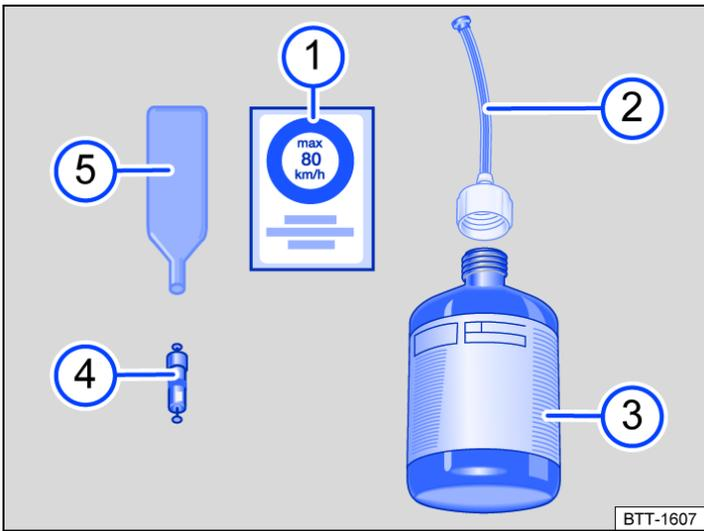

Fig. 1 Illustration: components of the breakdown set.
The breakdown set consists of the following items → Fig. 1:
- ① 12-volt plug.
- ② ON/OFF switch.
- ③ Tyre pressure display.
- ④ Air bleed screw.
- ⑤ Tyre filler hose.
- ⑥ Air compressor.
There is a slot on the lower end of the valve core extractor → Fig. 1 ⑤ for the valve core. This is required for extracting the